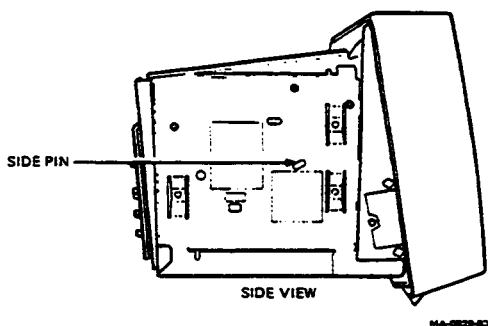

Figure 4-11 Rectangularity Adjustment
6. Turn the SIDE PIN control (Figure 4-11) so the left and right sides of display appear vertical without any bowing when viewed straight on. The maximum bowing in or out must be less than 3 mm.